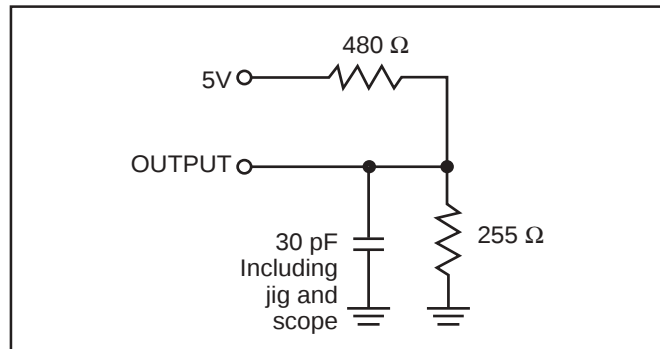

Figure 1
Output Load	See Figures 1 and 2
1. Test conditions assume signal transition times of 3 ns or less, timing reference levels of 1.5V, input pulse levels of 0 to 3.0V and output loading specified in Figure 1.
1. Test conditions assume signal transition times of 5 ns or less, timing reference levels of 1.5V, input pulse levels of 0 to 3.0V and output loading specified in Figure 1.